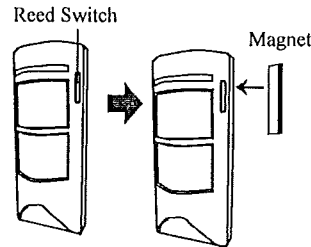

Fig. 8
- C). activate the PIR to transmit RF ID by placing a magnet closely to the reed sensor of the PIR, refer to Fig. 8.
1. Refer to Fig. 8 for the reed switch location on PIR PCB and place a magnet (you can use the one supplied with Door Sensor) closely to the reed switch, until the LED turns ON→OFF→ON, this takes about 3 or 4 seconds, and then remove the magnet. Afterward the PIR would enter "TEST" mode for 3 minutes.
It's a must to make sure the RF communication with LS-30 base unit is OK after installation. Refer to Fig. 8 and place a magnet closely to the PIR reed switch to activate RF transmission, check if the base unit can receive the radio signal. Also check the RSSI on the LCD of the base unit to assure RF link is secure. You can use a repeater to extend radio range when needed.